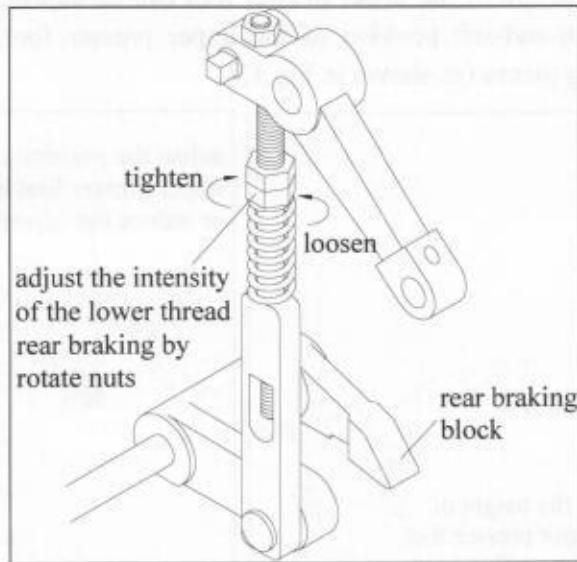

Fig.10
4.7.4 Rotate the eccentric pin or the adjusting nut to set the intensity of lower thread rear braking. (as shown in Fig.10)